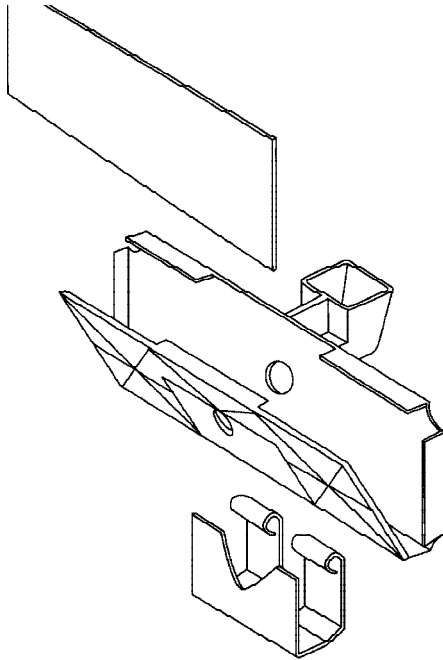

Figure 4. Filter Concentrator Assembly
4.12 Assembly of the Filter Concentrator (See figure 4.)